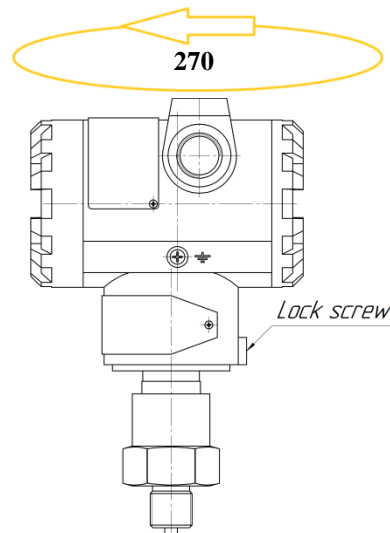

Fig.3 - Transmitter rotation angle
1.4.3 The structure allows to rotate transmitter for 270° around the common vertical axis, while the rotation angle is limited to the design of the rotation assembly (fig.3).